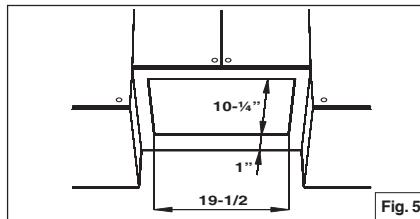

Fig. 5
2. Cut a hole in the bottom of the cabinet, using the dimensions shown (Fig.5).